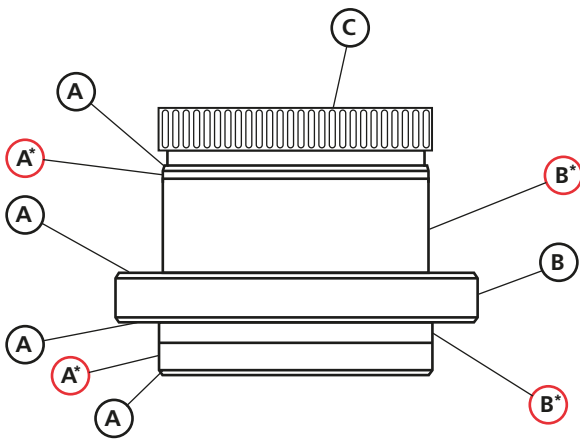
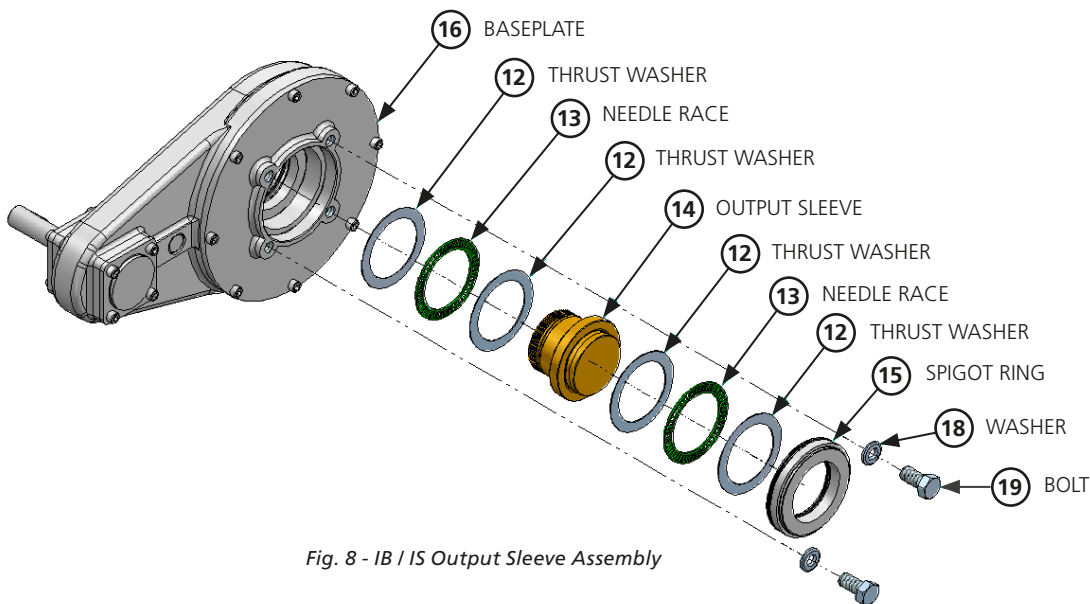
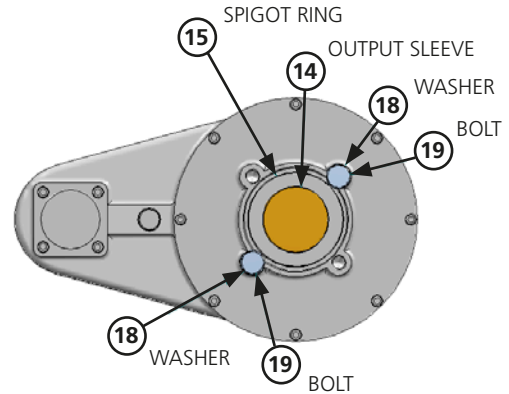

Fig. 7 - Splined Output Sleeve - Important Surfaces
Fig. 8 - IB / IS Output Sleeve Assembly
Fig. 9 - Securing Spigot Example
IB and IS range of gearboxes have a removable output sleeve. Unless specifically requested at the ordering stage, the output sleeve will be supplied blank and must be machined to suit the valve stem. Before re-fitting the output sleeve after machining, check that the surfaces marked 'A' in Fig. 7 are not damaged.
Important Notes for Fig. 7:
An anti-friction compound containing molybdenum disulphide, such as MI-Setral-9M should be applied to the faces marked with '*' and highlighted in red in Fig. 7, before inserting the output sleeve back into the gearbox. For clarification on the suitability of an anti-friction compound, please contact Rotork Gears.
Referring to Fig. 8 below, note that the output sleeve arrangement is identical for IB and IS gearboxes. The sleeve (14) can be easily removed from the gearbox by first removing the spigot ring (15) from the baseplate (16). A small force may have to be applied to the face marked 'C' in Fig. 7 to assist in removing the sleeve.
⚠ WARNING – We recommend fitting a nut (19) and washer (18) fixture into the base of the gearbox as demonstrated in Fig. 8 and Fig. 9. Note that the washers must overlap the spigot ring (15). This will stop the output sleeve assembly from becoming detached from the main body. The bolts and washers are not supplied by Rotork Gears.